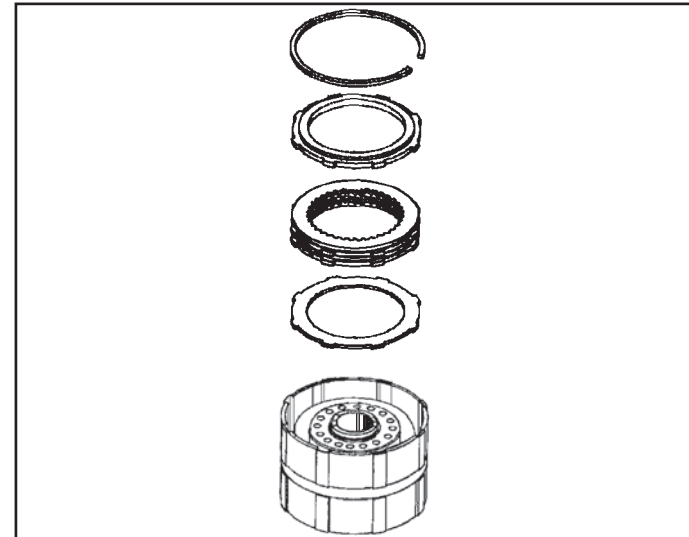

Figure 115
2. Install the apply plate into the clutch housing with the fiber side facing up. Install all clutch plates starting with an internally splined plate first, alternate plates with the fiber side facing up (See Figure 115). There is a total of four internally splined and three externally splined fiber plates in this pack.
3. Install the clutch backing plate and selective retaining snap ring (See Figure 115).